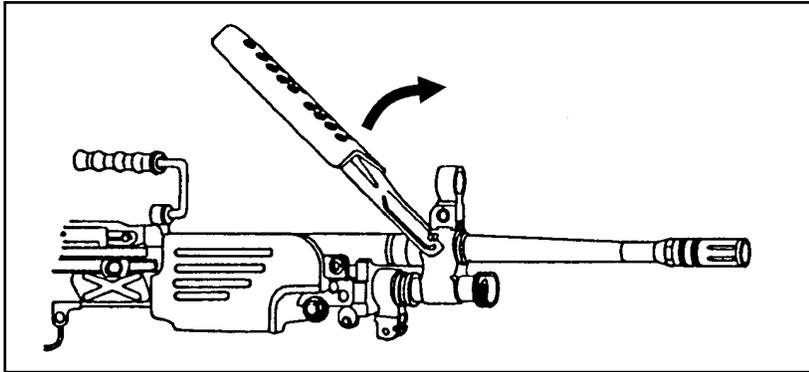

Figure 071-312-4025-6. Removal of the heat shield
d. Remove the barrel (figure 071-312-4025-7).
(1) Ensure the folding handle on the new style barrel is in carrying (up) position.
(2) Depress the barrel locking lever with your left hand. Grasp and lift the carrying handle with your right hand. Push the barrel forward.